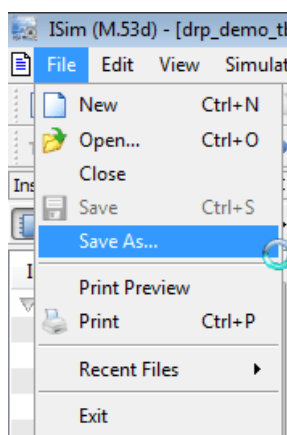

Figure 4-31: Saving the Wave Window Configuration
1. Select **File > Save As** to assign a name to the current wave configuration (Refer to Figure 4-31).